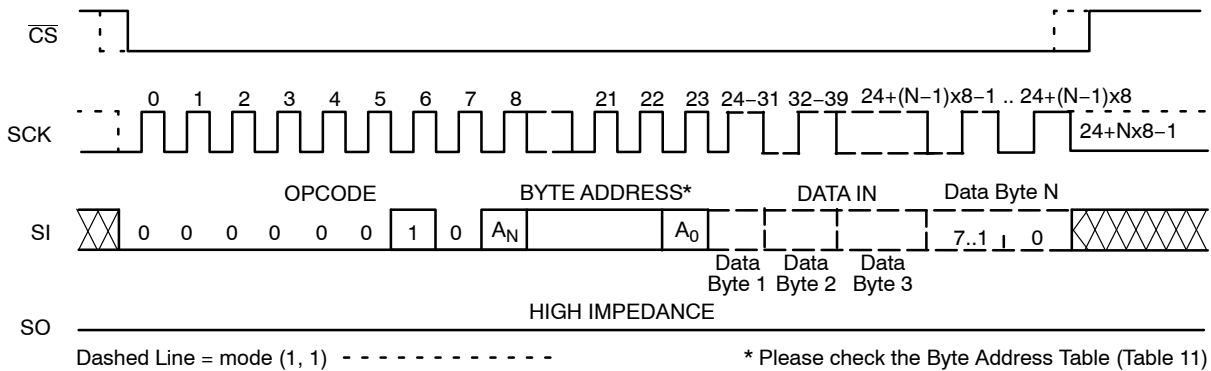

Figure 6. Page WRITE Timing
After sending the first data byte to the CAV25256, the host may continue sending data, up to a total of 64 bytes, according to timing shown in Figure 6. After each data byte, the lower order address bits are automatically incremented, while the higher order address bits (page address) remain unchanged. If during this process the end of page is exceeded, then loading will “roll over” to the first byte in the page, thus possibly overwriting previously loaded data. Following completion of the write cycle, the CAV25256 is
The additional 64-byte Identification Page (IP) can be written with user data using the same Write commands sequence as used for Page Write to the main memory array (Figure 6). **The IPL bit from the Status Register must be set (IPL = 1) using the WRSR instruction, before attempting to write to the IP.**